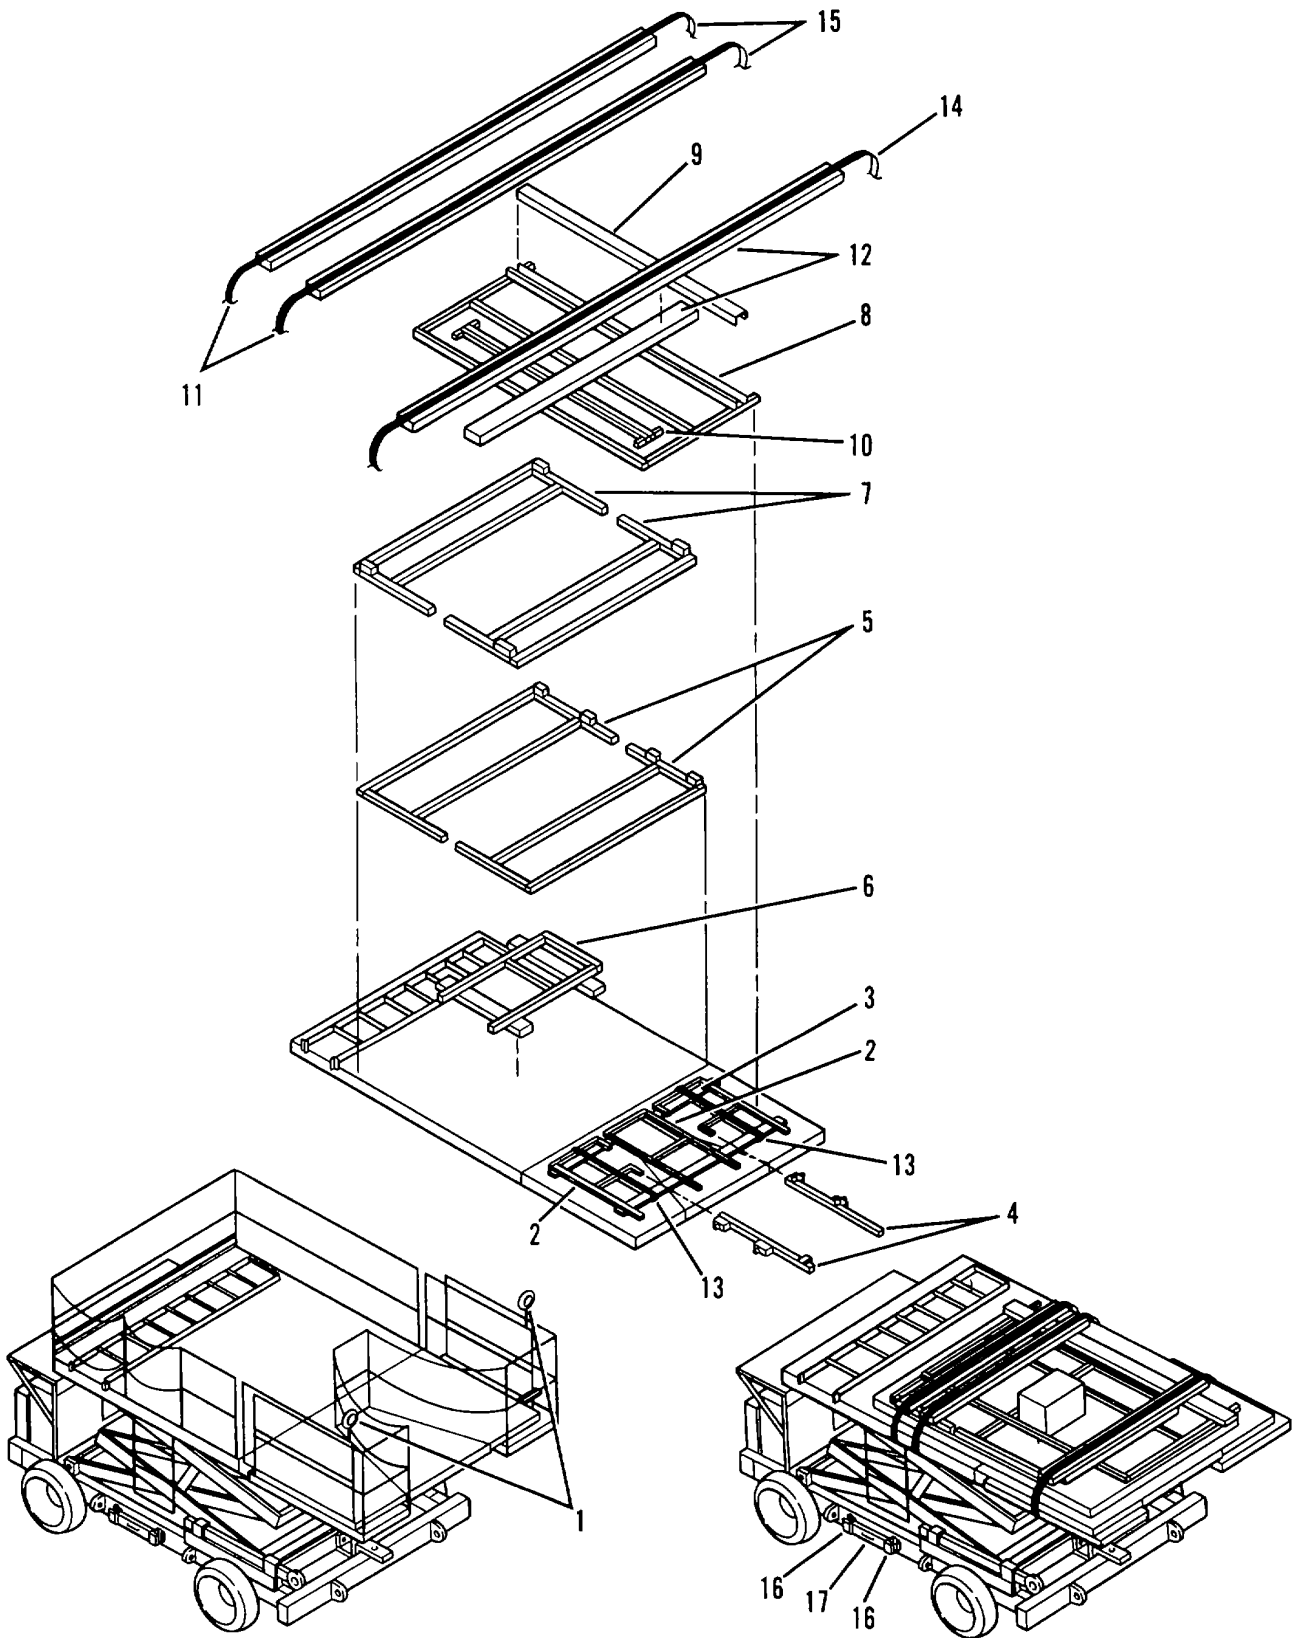

Figure 2-29. Storage for Transport .
- (1) Review Final Inspection Report to be sure all items are signed off.
- (2) Check Serial Plate (see para 2-16) to be sure serial number corresponds with the paper work.
- (3) Disconnect and remove two spot work lights (1, Figure 2-29) located on platform guardrails and place in space parts box.
- (4) Remove one platform guardrail (2) positioned to the right of fixed access ladder. Wrap four corners with protective material. Lay on platform deck at front putting two pieces of 2 x 4 approximately 90" (230 cm) long under guardrail, one piece at each end. Position 2 x 4 left to right with the width of the platform
- (5) Remove two end guardrail pieces (3) (23 1/2" x 42" (1.5 m x 2.2 m) and wrap four corners with protective material. Lay on each side of platform guardrail in Step 4.